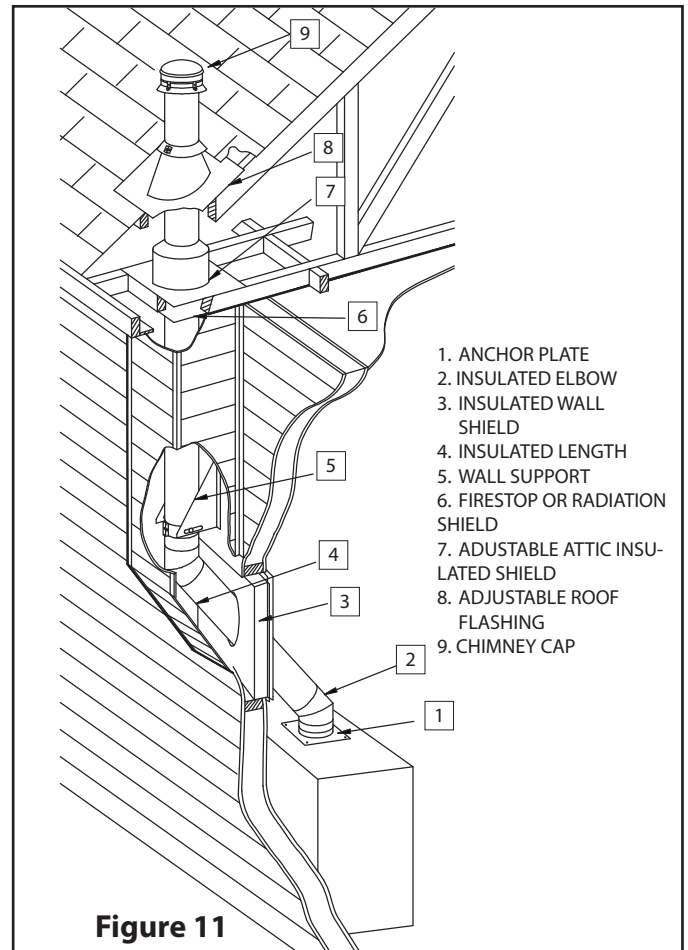

Figure 11
However, if you do install the chimney outside, we recommend it is enclosed in an insulated enclosure. See Figure 11.
3. A Wall Support (WS) must be used to secure the chimney to the wall when used on a factory-built fireplace in a through the wall installation with 30° offset or 45° offset (Canada only). The triangular plates allow for a 2-3/4" adjustment of the support to the vertical surface. See Figure 11. See Table 1 on page 4 for the maximum supported chimney height.